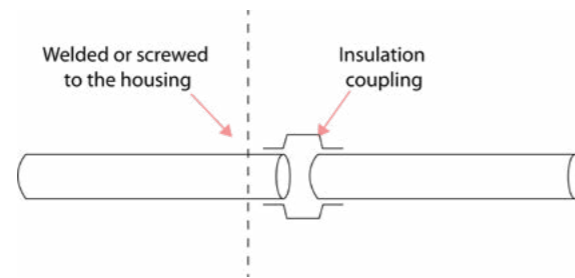

Figure 24.2: Pipes of conductive material need insulating couplings.
- Level III H 64 69 Pipes for fluids, air, heating (Fig. 24.2)